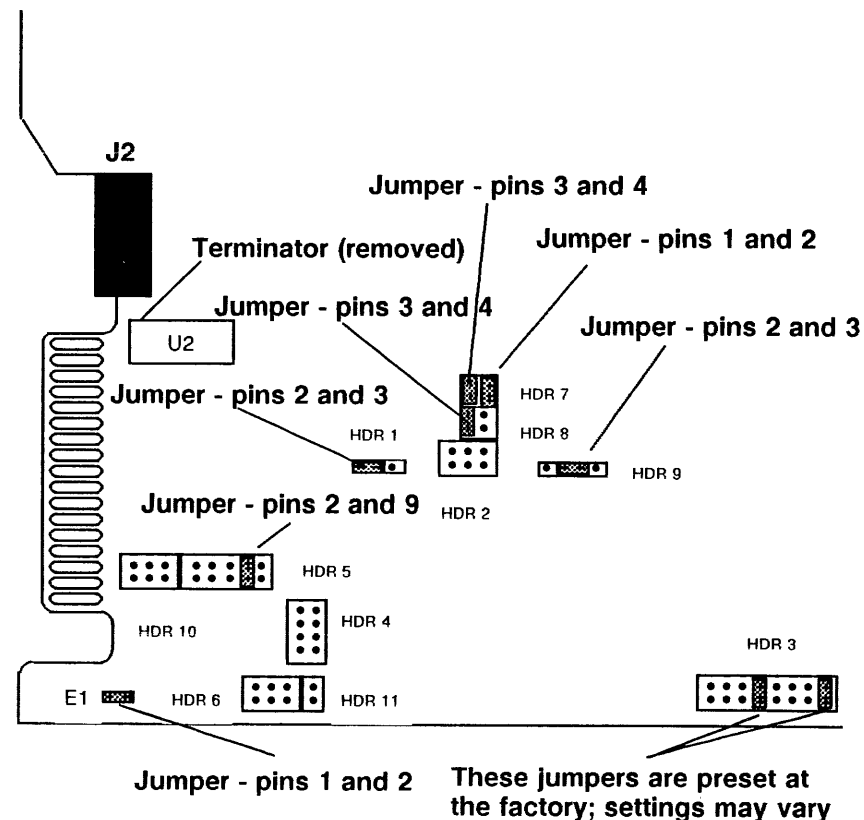

Figure 8B. Cartridge Tape Drive Jumper Locations
1. Verify that the cartridge tape drive jumper settings are correct and that the terminator has been removed (Figure 8B).